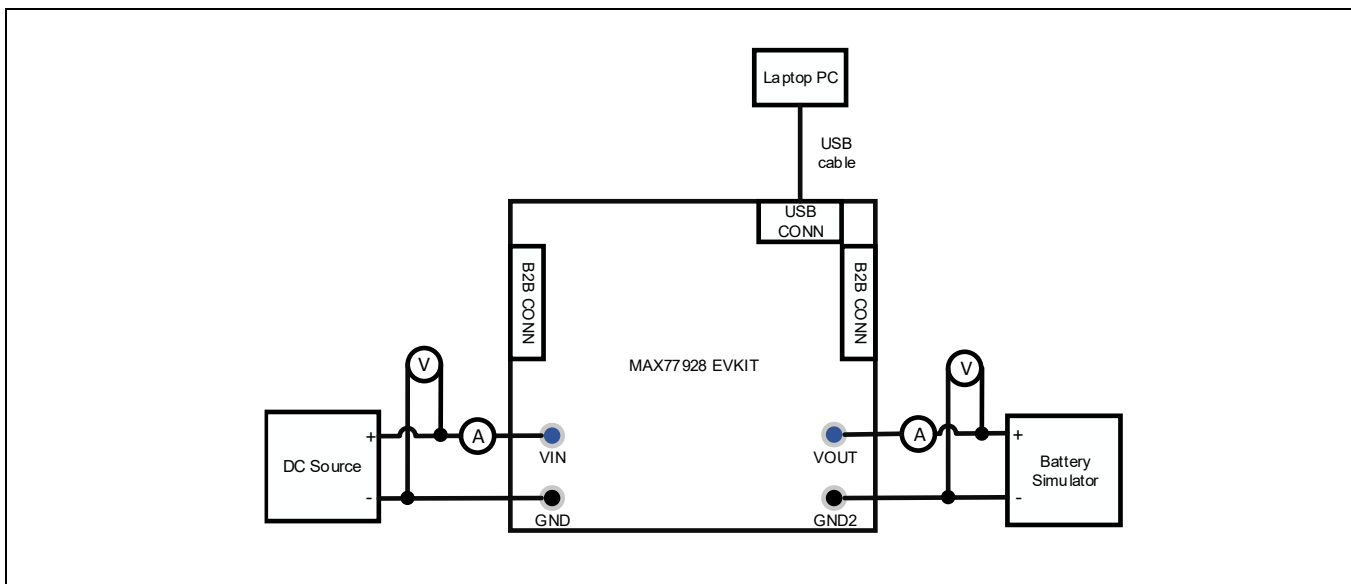
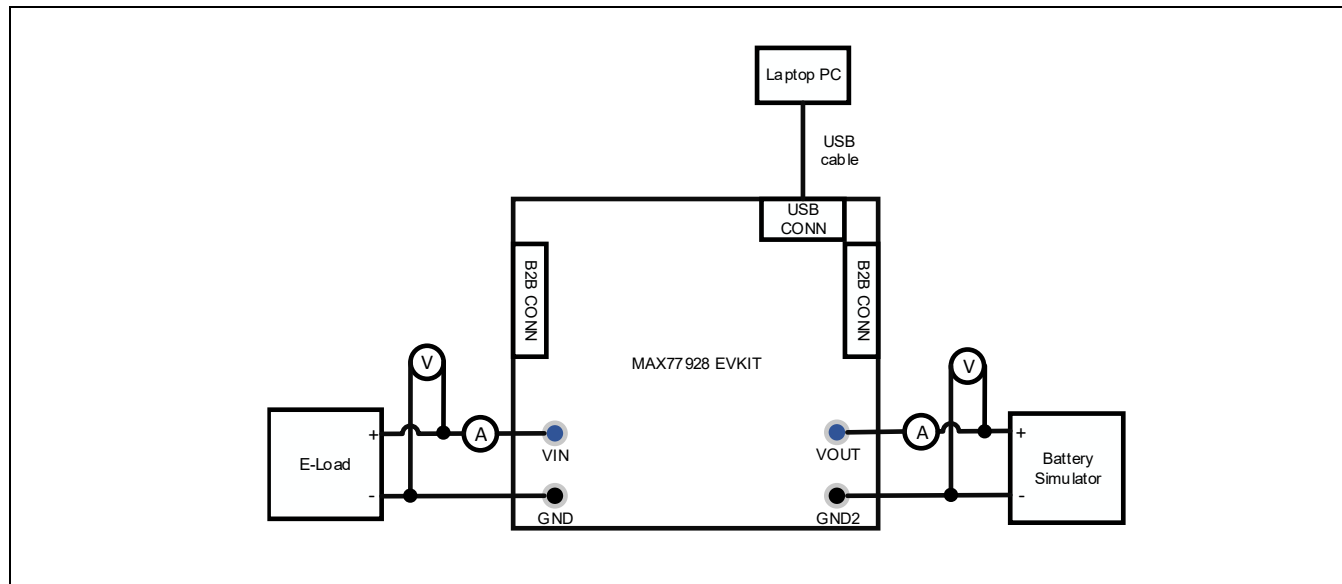

Figure 2. MAX77928 EV Kit Board Connections for Forward Mode
Figure 3. MAX77928 EV Kit Board Connections for Reverse Mode
A typical bench setup for the MAX77928 EV kit is shown in Figure 2 and Figure 3.
A typical bench setup for the MAX77928 EV Kit is shown in Figure 2 and Figure 3.
1. Connect a 1-cell Li-Ion battery or simulated battery between V_{OUT} and GND2. If a battery simulator is used, adjust the voltage and current limits of the battery simulator to ensure the voltage of V_{OUT} does not exceed the limitation. The connection diagram is shown in Figure 2. The output of the battery simulator is off.
9. Connect a 1-cell Li-Ion battery or simulated battery between V_{OUT} and GND2. If a battery simulator is used, adjust the voltage and current limits of the battery simulator to ensure the voltage of V_{OUT} does not exceed the limitation. The connection diagram is shown in Figure 3. The output of the battery simulator is off.